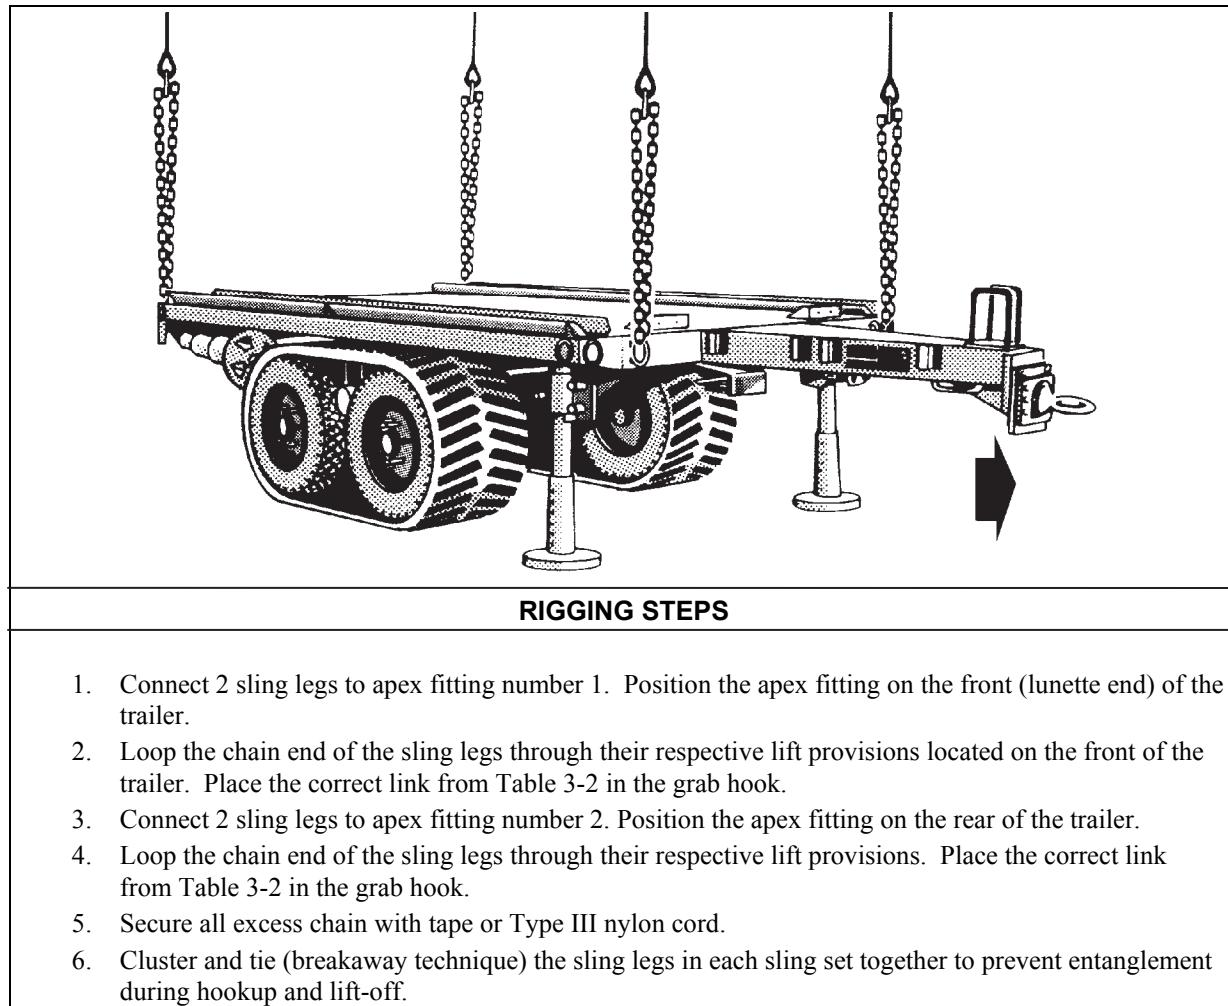

Figure 3-2. M1048 Trailer with Tracked Suspension System
- **Rigging.** Rig the load according to the steps in Figure 3-2.